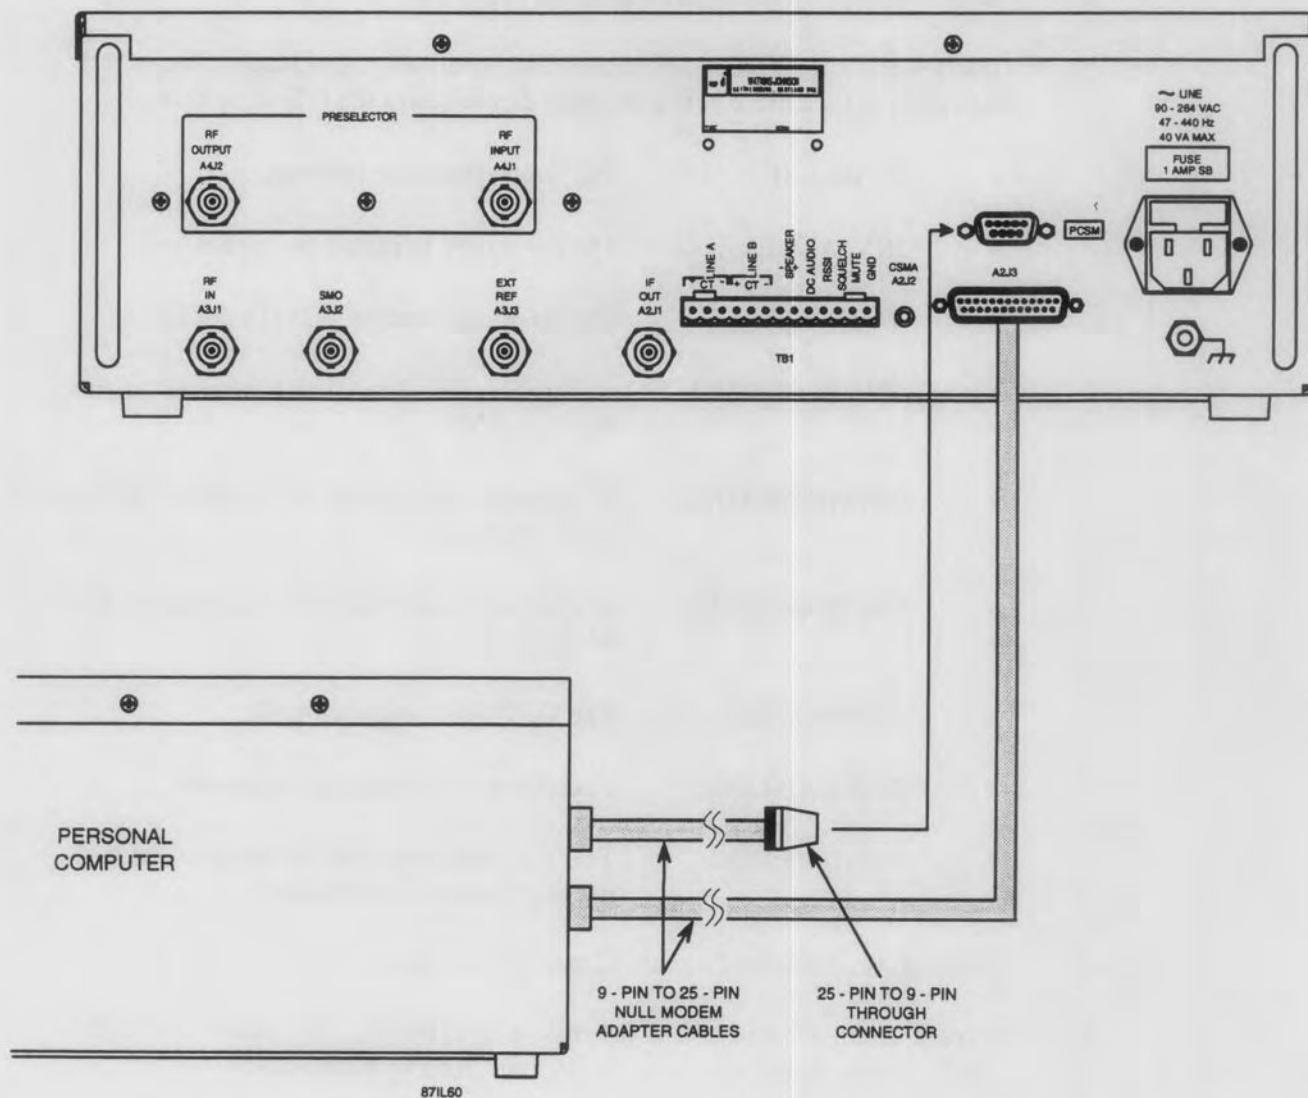

Figure G-4. Connecting the Computer to the Receiver
7. Connect LINE 1 of the I/O Communications board (DB-9 port) to connector A2J3 on the rear of the receiver (DB-25 port) using the 9-pin to 25-pin null modem adapter cable and a 25-pin to 9-pin through connector (see **Figure G-4**).
8. Connect LINE 2 of the I/O Communications board (DB-9 port) to the PCSM2 connector on the rear panel of the receiver (DB-9 port) using the 9-pin to 25-pin null modem adapter cable and a 25-pin to 9-pin through connector (see **Figure G-4**).
6. On the rear panel of the receiver, locate the existing 9-pin D-type "knock-out" that is directly above connector A2J3 (refer to **Figure G-4**). Carefully remove and discard the "knock-out", taking care not to damage any receiver connectors or assemblies.
- Mount connector W1J1 to the rear panel of the receiver using the provided hardware: WJ Part Number 205817-1, Screw/Lock Kit. Affix the supplied label, "PCSM2", next to this connector as shown in **Figure G-4**.